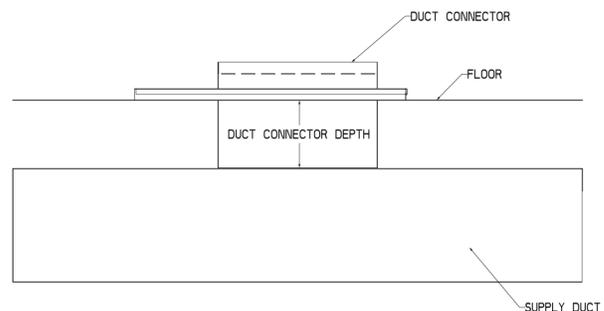

Figure 8: Duct connector location
- Remove the furnace front door / access panel, and rotate the by 180° (with the air discharge pointed upward), place the furnace on top of the coil cabinet as seen in Figure 8 and fasten it to the coil cabinet using the minimum of four field-supplied screws.